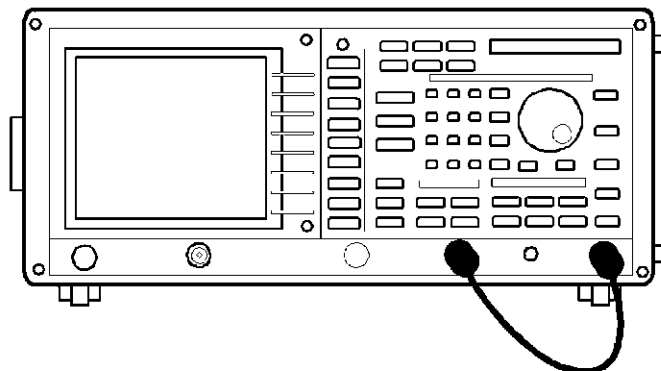

Figure 5-4 Setup of Resolution Bandwidth Switching Uncertainty
1. On the R3132 series, connect the BNC cable from CAL OUT connector to the INPUT connector as shown in Figure 5-4.